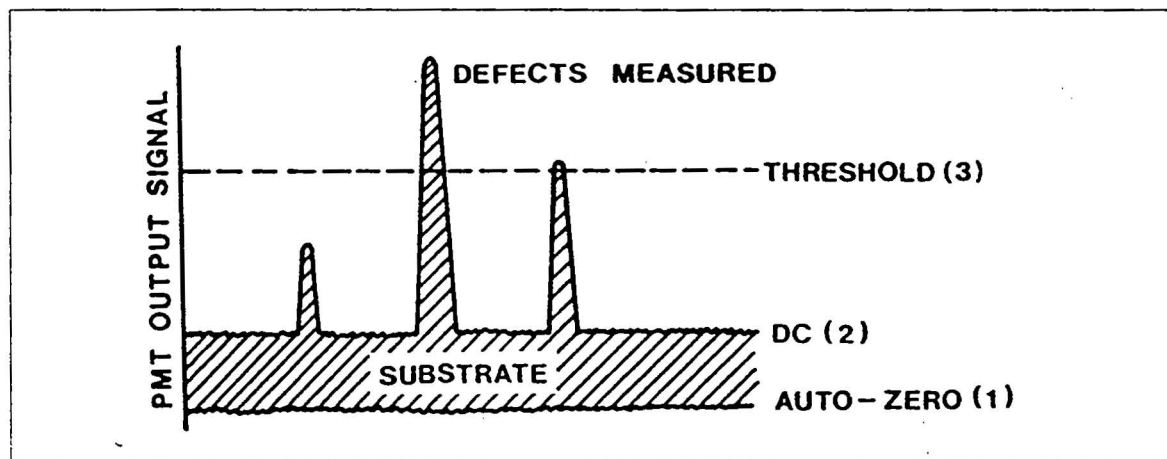

Fig. 2-18 PMT Signal
The final improvement (Fig. 2-18) to the collection system was to replace the integrating sphere with a high efficiency fiber optics bundle and add a set of mirrors to the ends of the elliptical mirror.
A typical PMT output signal is shown in Fig. 2-18. The Instrument uses three levels for measurement: (1) the Auto-Zero level discussed above, (2) the DC level from the haze of the substrate, and (3) an adjustable threshold level for measuring particles.